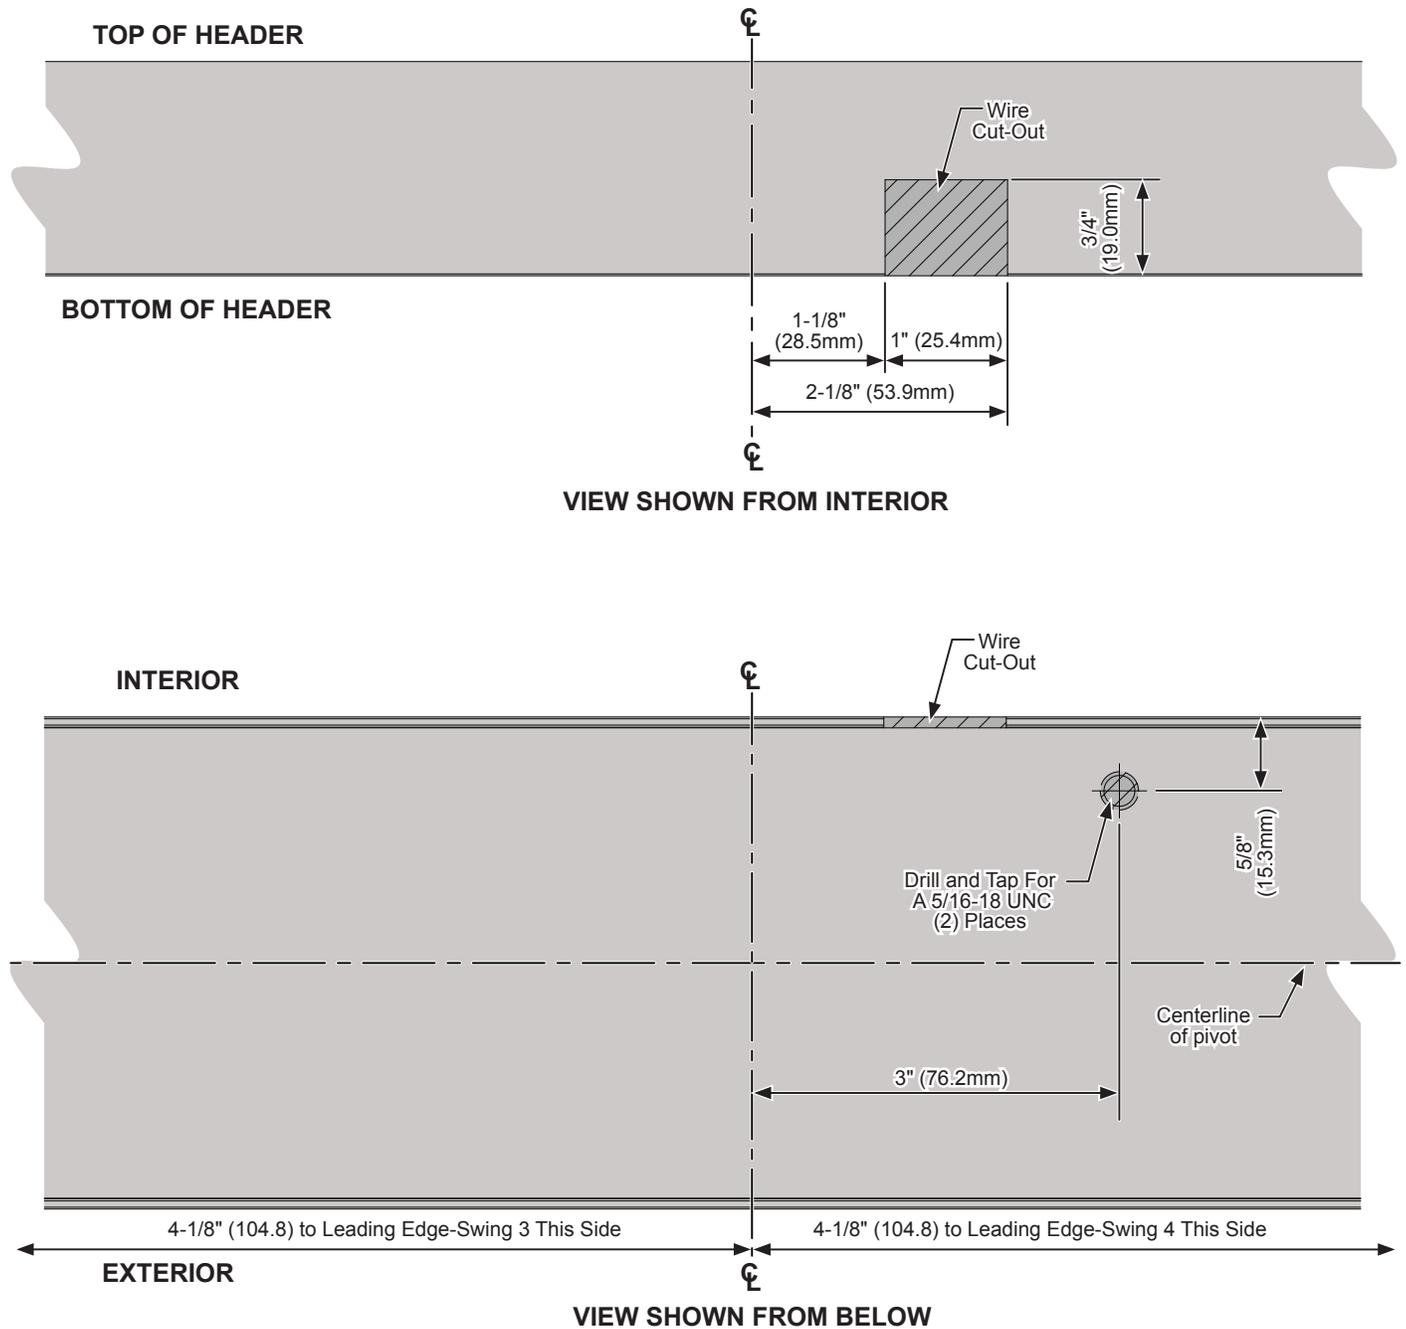

FIG. 1
2. Mark the centerlines and the layout on the header as shown in. **(Fig. 1)**